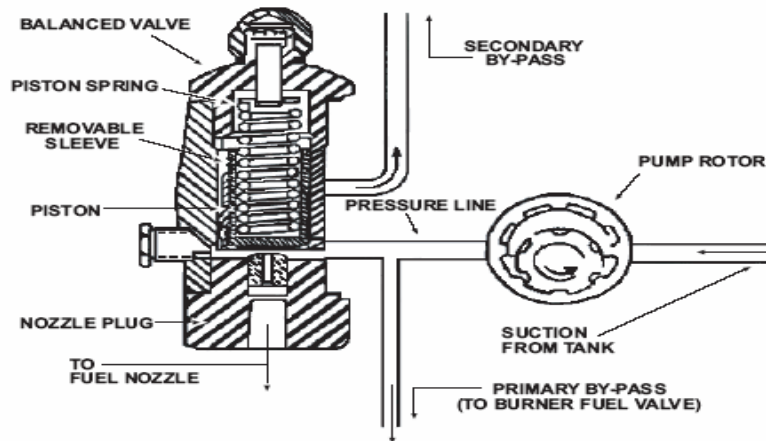

Figure 4-2 • Schematic Diagram of Fuel Pump
4.14 The fuel pump is mounted on a bracket to the left of the engine. The pump is belt driven by the diesel engine. There are three outlet ports and two inlet ports (*see figure 4-2*). A primary by-pass will handle all the flow if the balanced valve is closed. When the primary by-pass line is closed, the fuel will flow into the balanced valve and out through both the nozzle fuel line and the secondary by-pass line. Closing the burner valve, which is located in the primary by-pass line, allows the pump to build up pressure to the point where the valve opens allowing fuel flow in the nozzle fuel line. The pressure at which the balanced valve opens is determined by the compression of the piston spring, normally the spring is adjusted to 150 psi. The secondary by-pass supplies fuel to the engine and returns surplus back to the fuel tank. When the burner valve is open the pump cannot build up sufficient pressure to open the balanced valve and effect flow through the nozzle fuel line. Since the pump delivers fuel in excess of the maximum nozzle capacity maximum nozzle capacity there will always be flow through the secondary by-pass line when the burner valve is on. Fuel from the secondary by-pass flows back into the tank through a check valve which opens under a pressure of about 5 psi, this is sufficient to divert adequate fuel to the engine.